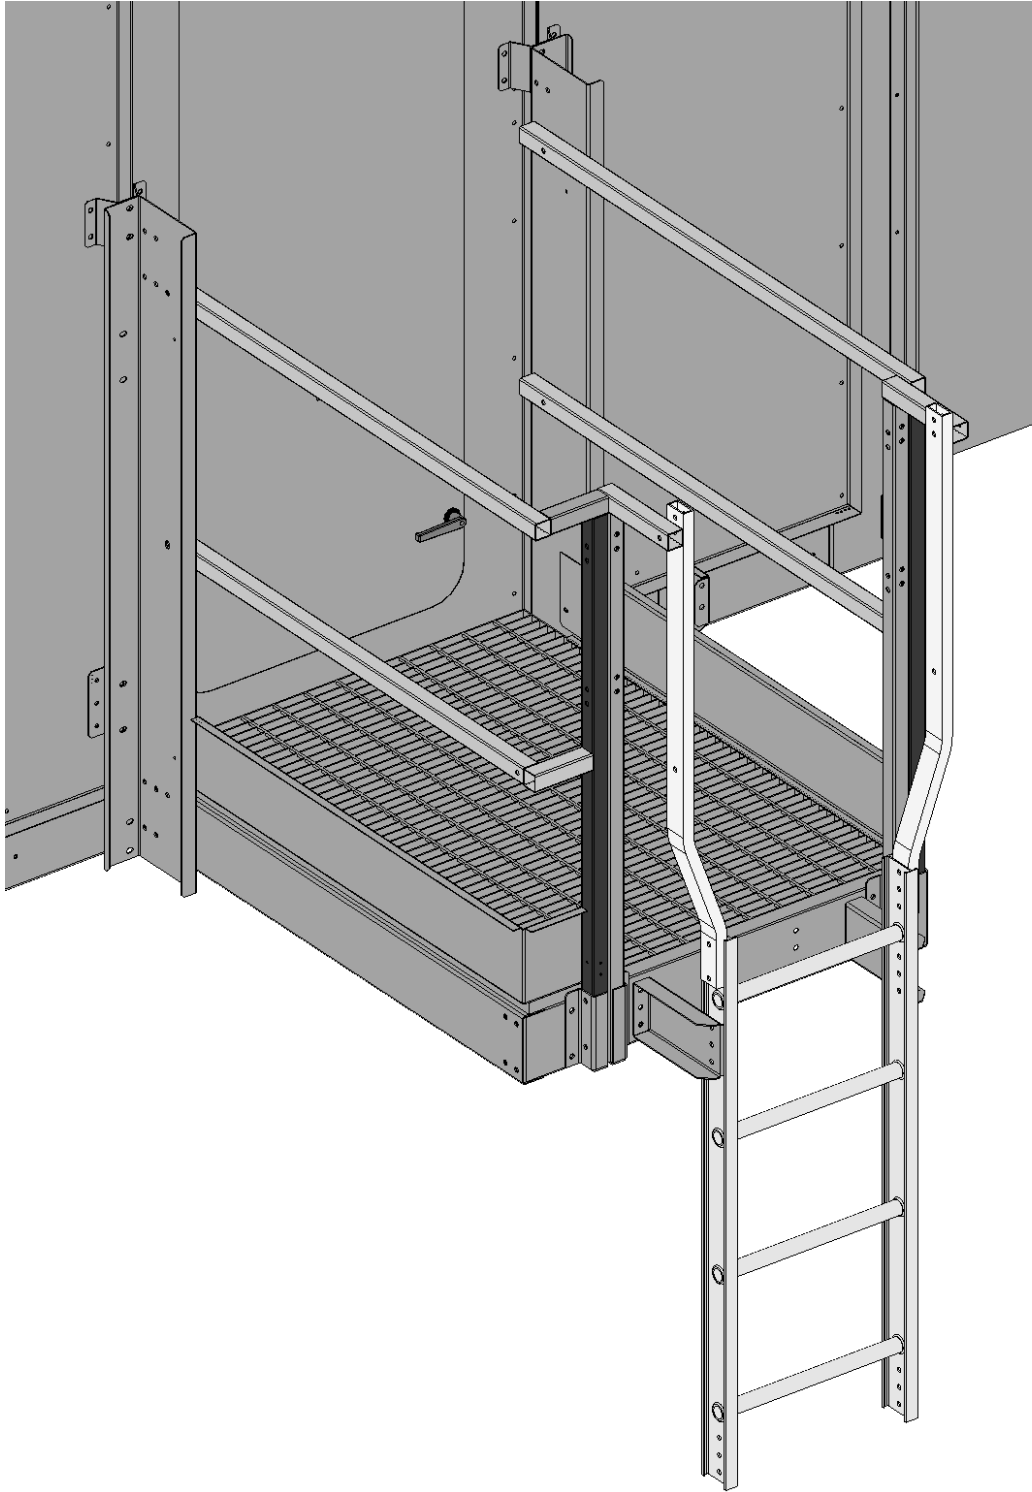

Figure 281A. Access Door Platform Location – Note, ladder safety cage not shown for clarify
This section sets forth the procedures for installing the access door platform (illustrated in **Figure 281A and 31B**). Platform location may depend on site specifications and can be on either side of the unit. Handrails and toeboards are pre-assembled to the access door platform. See submittal for job-specific details.
1. Starting with the factory assembled access door platform shown in **Figure 281A and 32B**, align the platform railings and platform with the factory-installed brackets on the customer-specified platform installation location per the submittal.